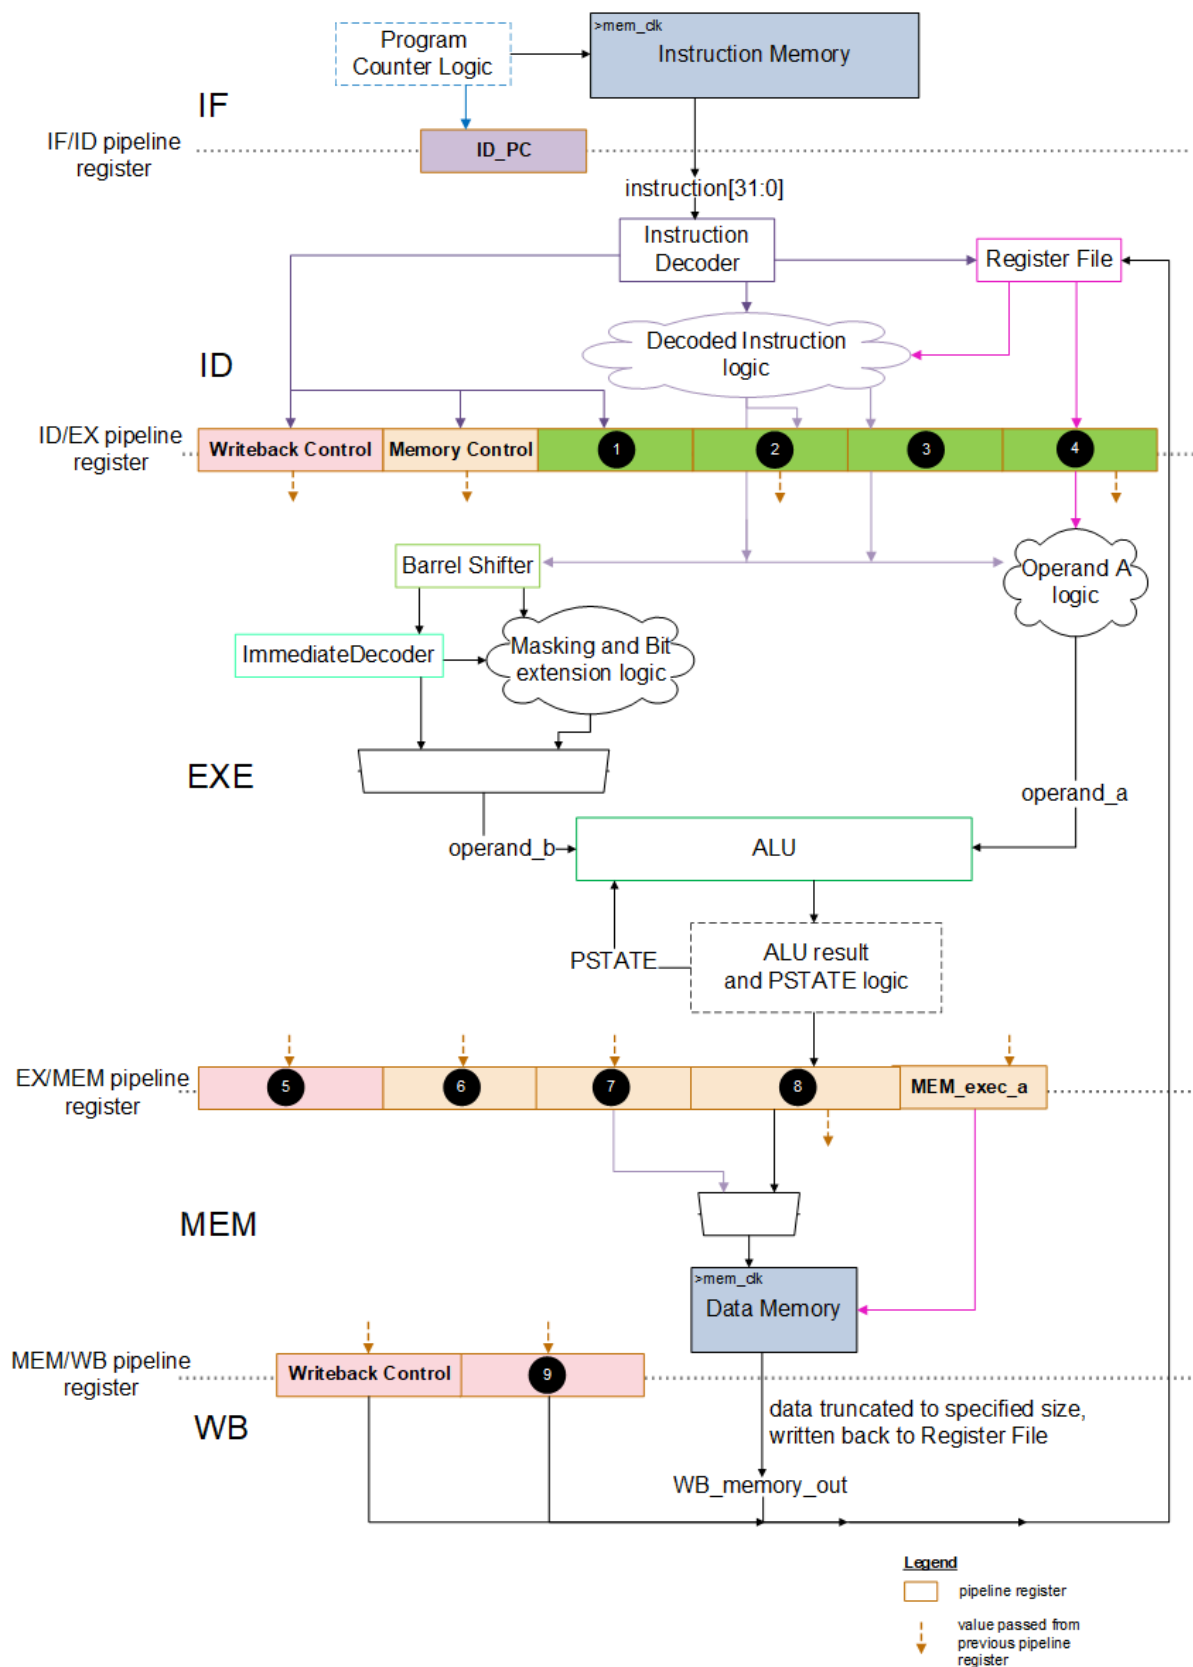

Figure 5: A simple pipeline in Arm Education Core
Figure 5 on the next page shows a diagram of a pipelined Arm Education Core with its pipeline registers. The pipeline registers typically have a prefix that reflects the stage that they are currently in (usually the beginning of a stage). Having completed the previous labs and now familiar with Arm Education Core's microarchitecture, match the following blocks to the circled numbers in the pipeline registers in Figure 5:
2. Any control signals that are to be passed on to several pipeline stages are also defined in **Educore.v**, such as the **Execute Control**, **WriteBack Control** and **Memory Control** signals in Figure 5. These control signals include the:
The following diagram shows a subset of such signals—for example, **write_en** will be passed to the EXE stage (**EX_write_en**) from the Instruction Decoder and then to the MEM stage (**MEM_write_en**), followed by the WB stage (**WB_write_en**), which then wraps back to the Register File, as shown in Figure 5.